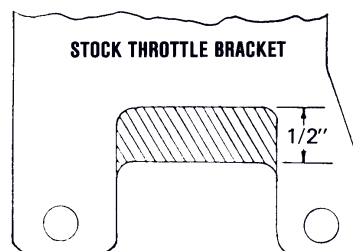

Figure 3—Remove shaded area to provide clearance for throttle or kick-down bracket
1. Due to the design and leg configuration on the Edelbrock manifold, the throttle and kick-down bracket on some model vehicles requires modification to fit. If this condition occurs with your installation, you may purchase the Edelbrock mounting bracket #8036, or modify your bracket as shown in Figure 3.